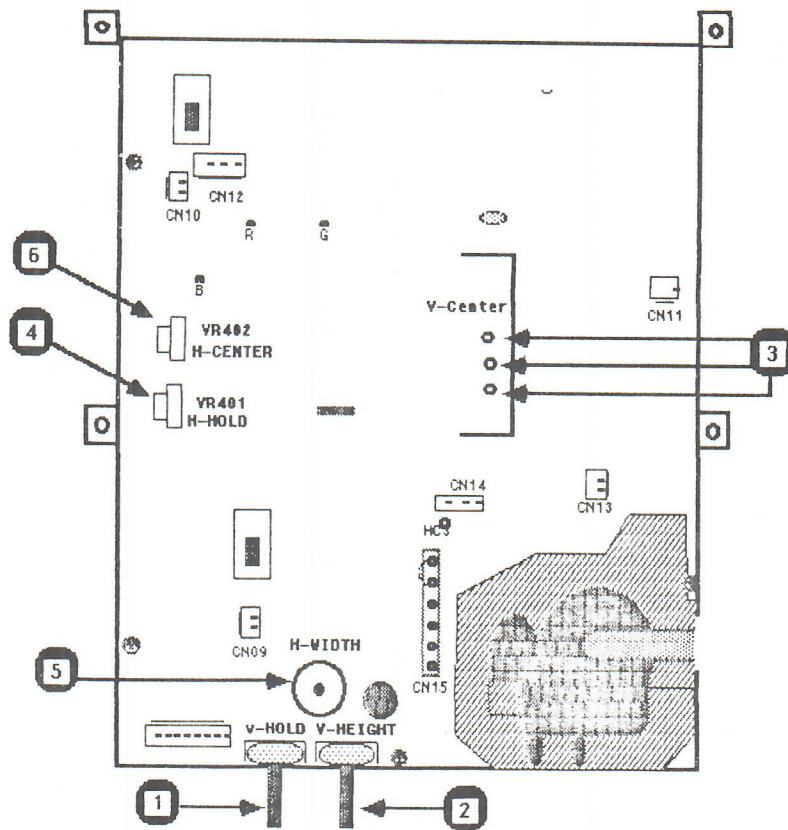

FIGURE 3
1. Vertical Hold: Set the vertical hold control VR301 (Figure 3, #1) to the mechanical center by turning it all the way to the left, then to the right, then back to the center of the range between left and right of its rotation. This should lock the picture on the screen and prevent any rolling.
2. Vertical Height: If the vertical height of the image is incorrect, then adjust V-HEIGHT VR302 (Figure 3, #2) until the picture is about 1/4 inch away from the top and bottom edges of the screen.
3. Vertical Center: If the vertical position of the entire image is off, carefully connect the H-C4 connector (Figure 3, #3) to the best position pin to correct this problem. [On the AppleColor Monitor 100 Rev. A, the three pins are not as perfectly aligned as those shown in Figure 3, #3).] BE CAREFUL, IT IS CLOSE TO THE CRT NECK!
1. Horizontal Hold: If the picture on the tube is not locked and is tearing, adjust H-HOLD R402 (Figure 3, #4).
2. Horizontal Width: The image should be about 1/4 inch away from each side of the screen. If the width of the image looks too narrow or too wide, adjust the H-WIDTH L406 (Figure 3, #5) until you have the desired width.
3. Horizontal Center: If the image is too far to one side of the screen, adjust H-CENTER VR402 (Figure 3, #6) until the image is centered.